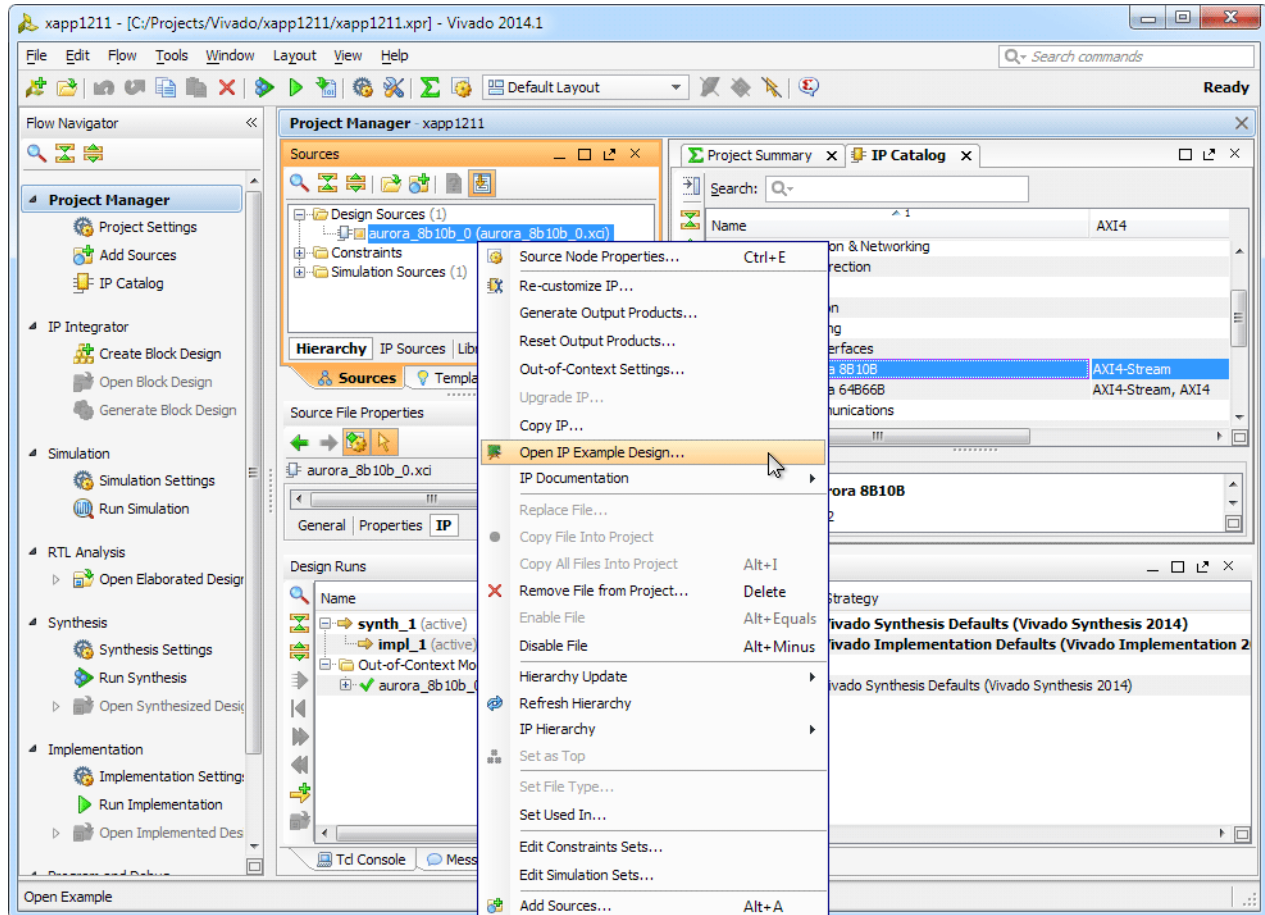

Figure 10: Open IP Example Design
1. When product generation is complete, in the Project Manager section of the Vivado IDE, right-click the core name and select **Open IP Example Design** (see Figure 10).